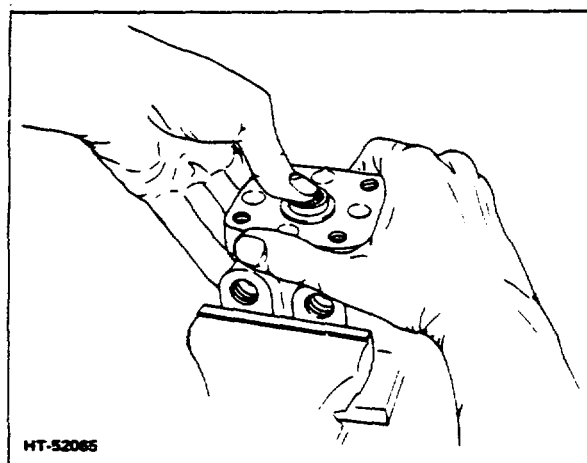

Figure 3-6. Removing End Cap
10. Hold the spool assembly down against the wooden block, and remove the end cap (Fig 3-6).